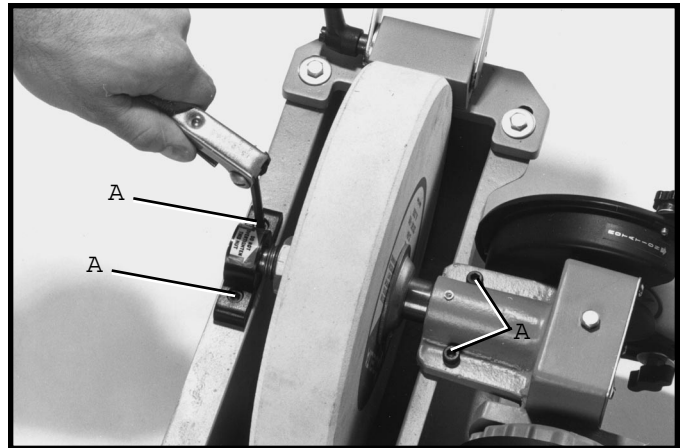

Fig. 19
When changing the Catalog No. 23-701 10 grinding wheel, remove the four screws (A) Fig. 19.